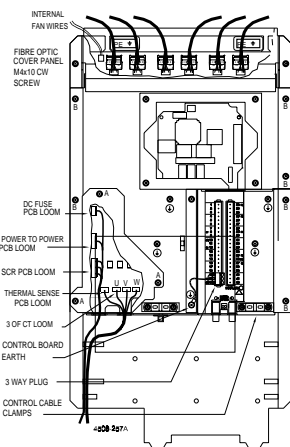
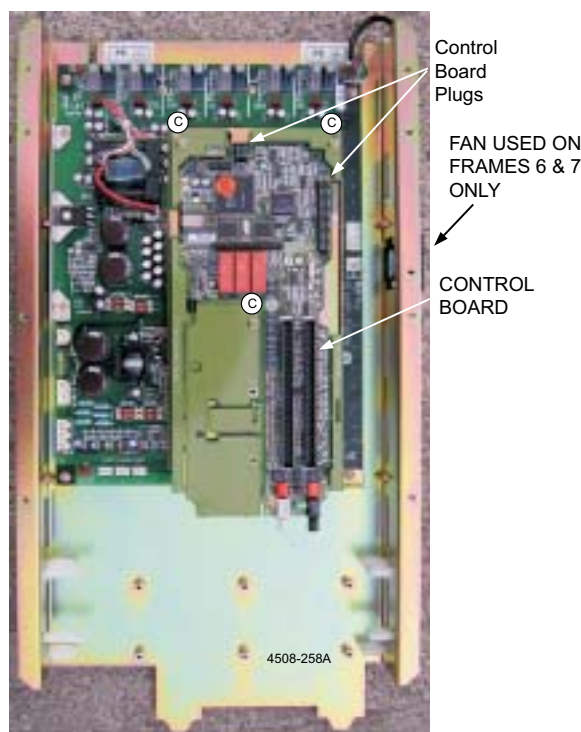

Figure 5.5: Frame 5 to 7 Power Tray
Figure 5.6: Frame 5 to 7 Power Tray and Control Board
- 3) Referring to figure 5.5 access to the wiring looms on the lower left hand side by removing screws (A) 3 off CW M4x10 retaining this plate.
- 5) Remove the remaining cover plates in one assembly by removing screws (B), 3 off M4x10. Slide the cover plate assembly down slightly to clear the fibre-optic connections before lifting it clear.
- 6) Referring to figure 5.6, the Control board is held by the Phillips screws (C), 3 off M4x10 screws. Remove these and lift the control board vertically off the connecting pins.
- 10) Gently push the 6 pin connector down slightly and repeat the process with the 40 pin connector. When this is completed, check through the slots to ensure no connecting pins are showing or damaged then push the control board completely home. Replace the 3 off M4x10 Phillips screws as per figure 5.6.